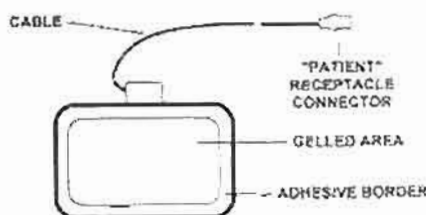

Figure 2-12. Patient return electrode (disposable).
(2) *Patient return electrode (disposable) (fig 2-12).*